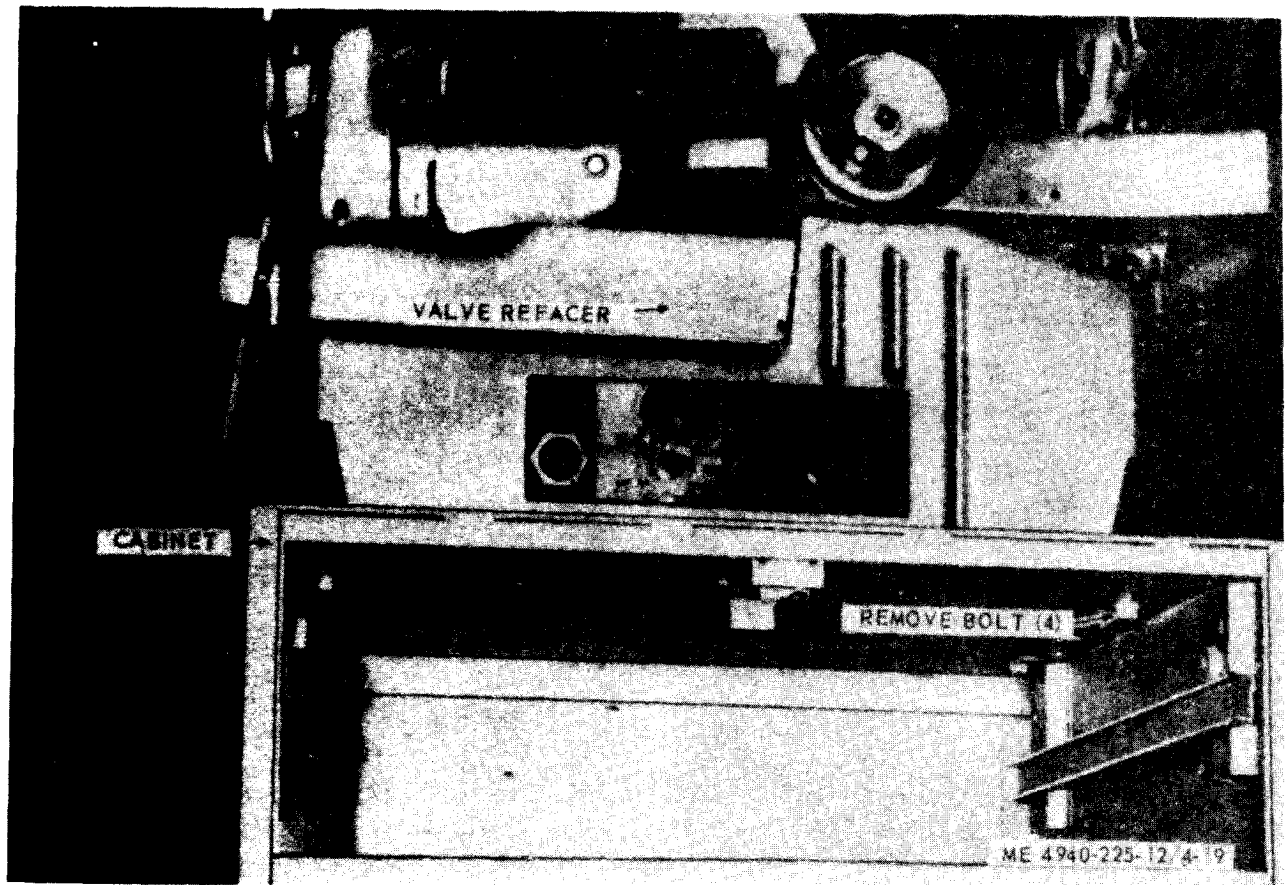

Figure 4-19. Valve refacer. removal and installation.
a. *Removal.* Remove valve refacer as illustrated in figure 4-19.
b. *Installation.* Install the valve refacer as illustrated in figure 4-19.